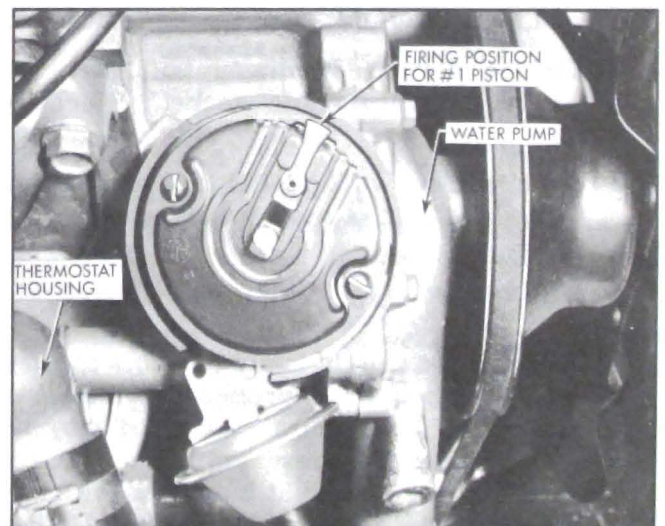

Figure 10-34—Installing Distributor in Engine
2. Install distributor in engine with rotor in position to fire No. 1 cylinder and with vacuum control in position to connect vacuum pipe. See Figure 10-34. Install distributor clamp and bolt with lockwasher, leaving bolt just loose enough to permit movement of distributor with heavy hand pressure. NOTE: If distributor does not seat in engine block, press down lightly on
2. Make a mark on distributor base in line with center of rotor. Then carefully note the direction the vacuum unit points in relation to engine so that the distributor can be replaced in the exact same position after it is serviced. See Figure 10-34. CAUTION: If engine is turned over while distributor is out, complete ignition timing procedure must be followed (par. 10-35).